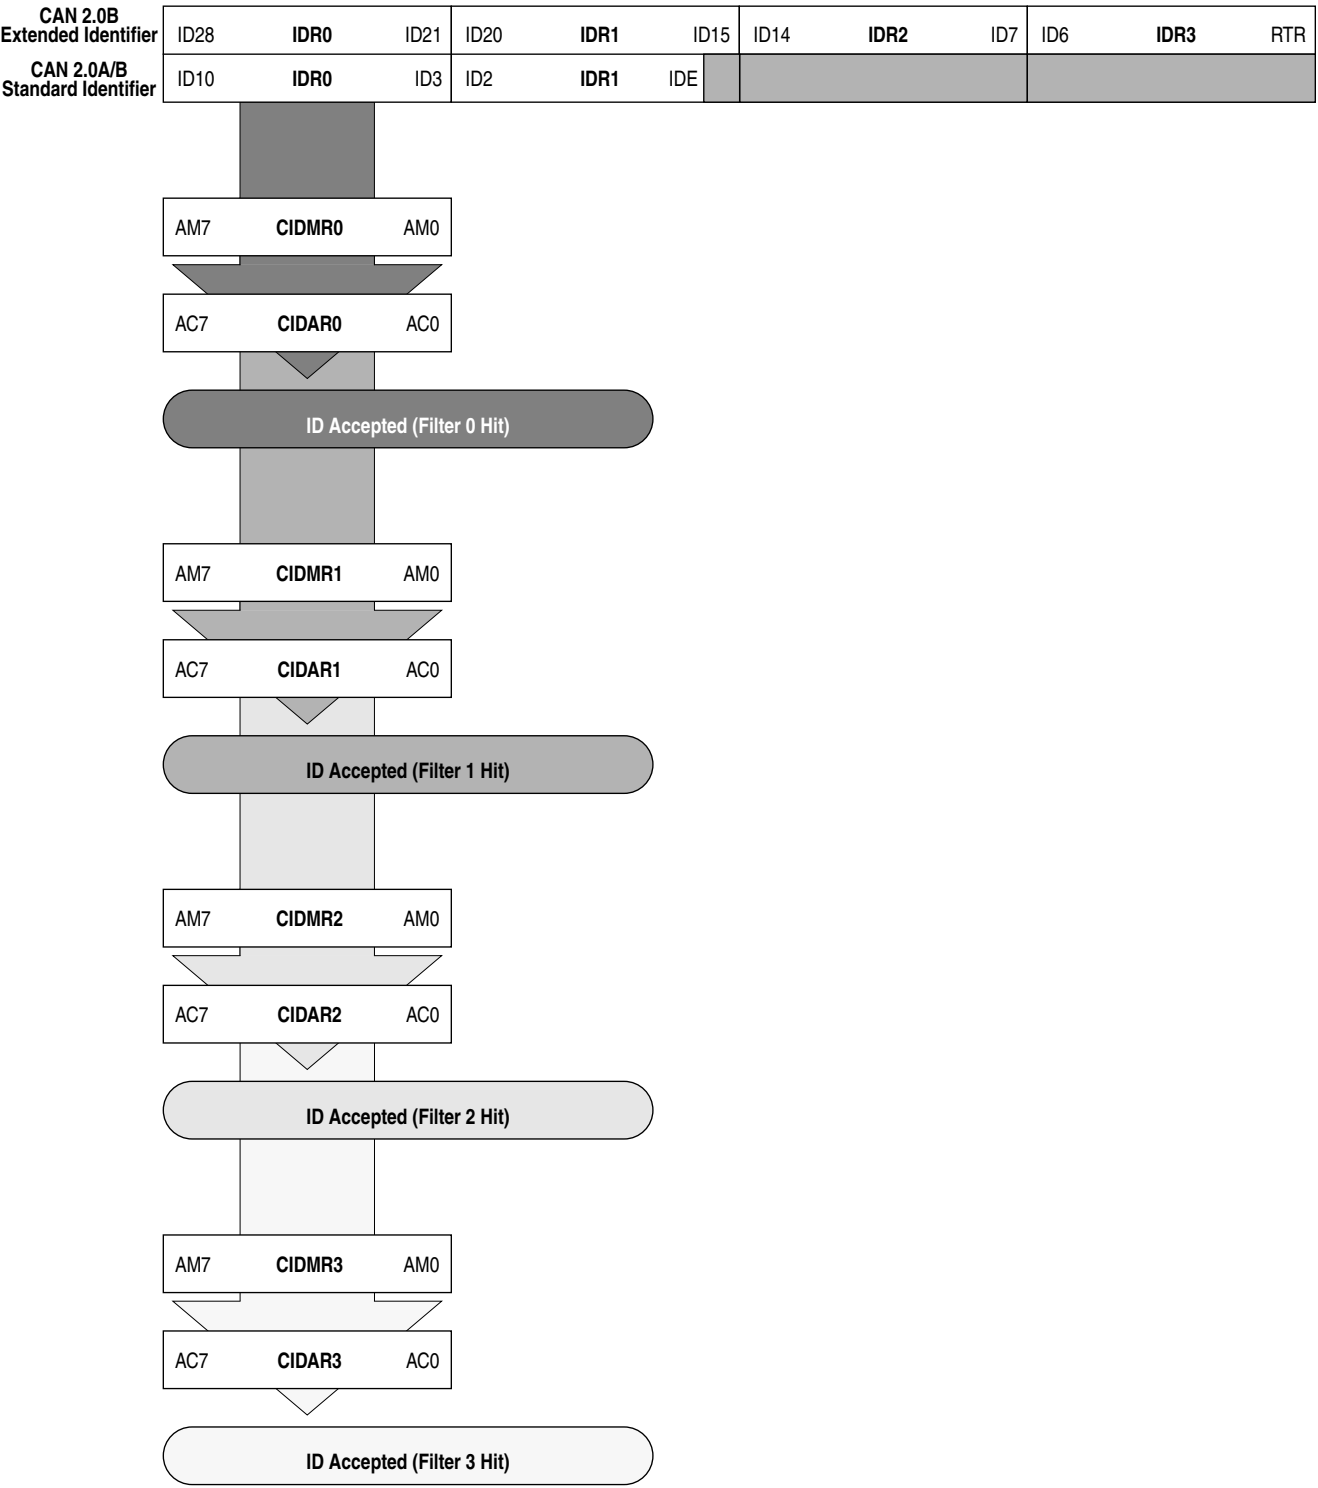

**Figure 12-41. 8-bit Maskable Identifier Acceptance Filters**
- Eight identifier acceptance filters, each to be applied to the first 8 bits of the identifier. This mode implements eight independent filters for the first 8 bits of a CAN 2.0A/B compliant standard identifier or a CAN 2.0B compliant extended identifier. Figure 12-41 shows how the first 32-bit filter bank (CANIDAR0–CANIDAR3, CANIDMR0–CANIDMR3) produces filter 0 to 3 hits. Similarly, the second filter bank (CANIDAR4–CANIDAR7, CANIDMR4–CANIDMR7) produces filter 4 to 7 hits.